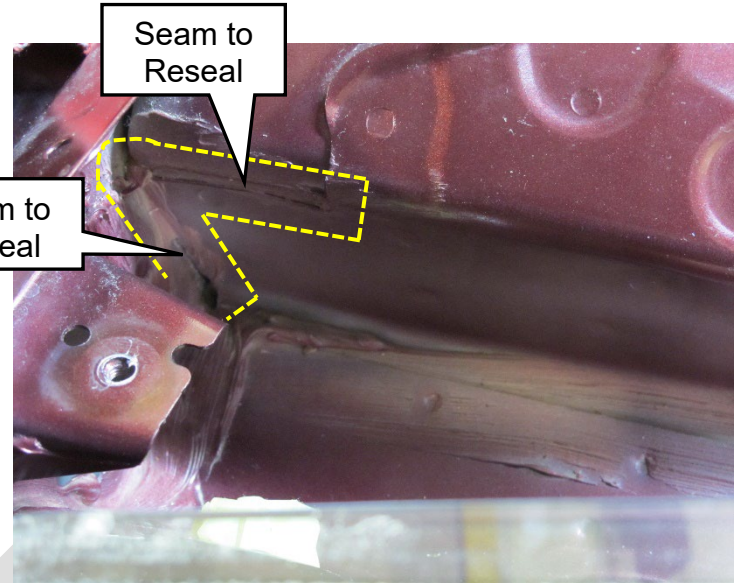

Figure 19
13. Using the brush with the seam sealer on it, apply the seam sealer to the joint seams identified in Figure 19.